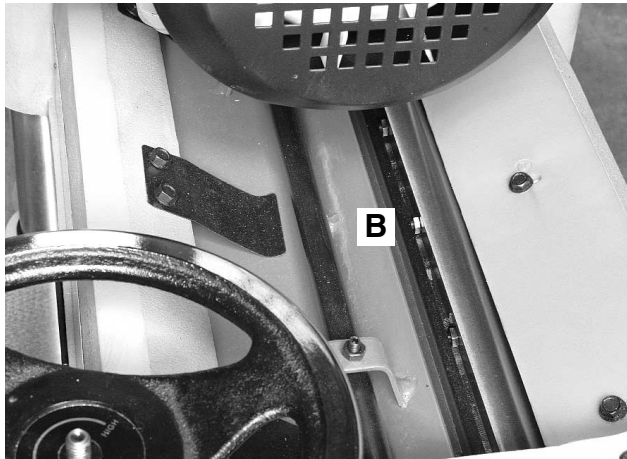

Fig. 6
3. Loosen the screws that hold knife locking bar in place Fig. 6 (B).